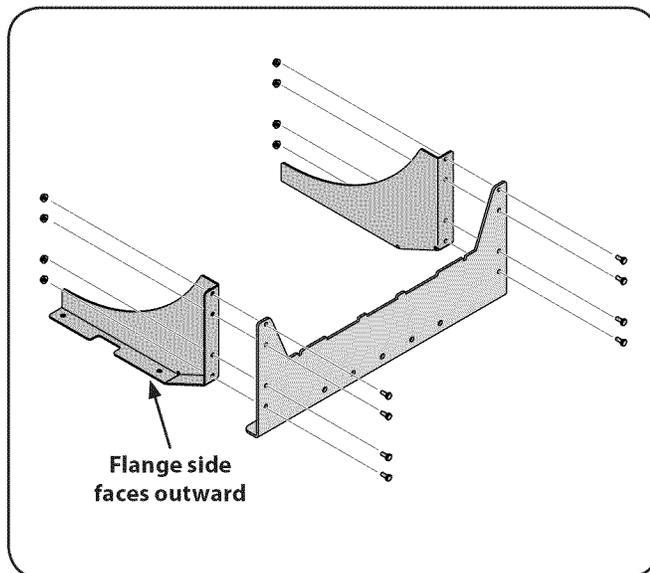

Figure 4-1
To assemble the bagger mounting assembly, locate the mounting assembly parts, as shown in Fig. 4-1, and follow these steps:
1. Attach the two side mounting brackets to the rear catcher bracket using eight 710-0751 hex head screws and 712-3027 flange lock nuts from hardware pack 689-00146. See Fig. 4-1. Be sure the orientation of the brackets matches the image in Fig. 4-1, in that the flanges of the brackets faces outward.